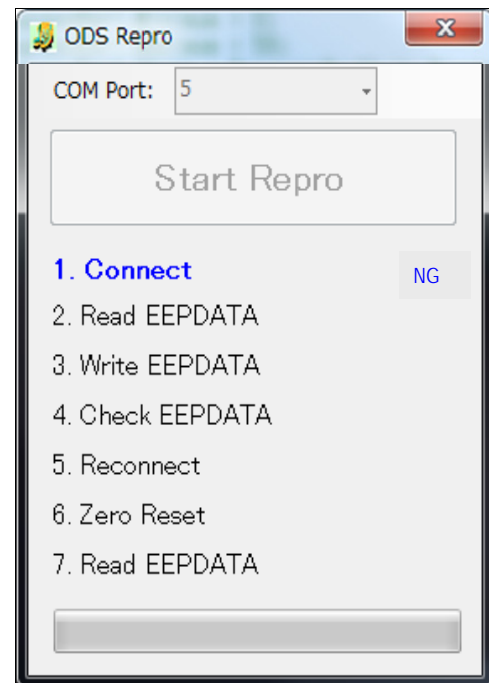

Figure 10
- If the OCS reprogramming stops (displays NG) at item 1,2,3 or 4, refer to Figures 10 through 13 on pages 8 and 9.
- Figures 10 through 16 on pages 8 through 11 are provided as reference if the OCS reprogramming stops (displays NG) at one of the items (1-7).